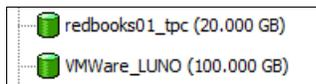

Figure 9-62 Logical Drive size
Within the Storage Manager (SM) client, in the left pane of the *Subsystem Management* window under the *Logical* tab, we can see the two Logical Drives that we take into consideration (Figure 9-62). In this phase we are interested to pick up the Storage Server configuration in terms of Logical drive Capacity, array RAID protection, number of disks per array and Hard Disk Drive (HDD) type/speed. We can find all this information in the Storage Manager client or in the Storage Subsystem Profile text file.